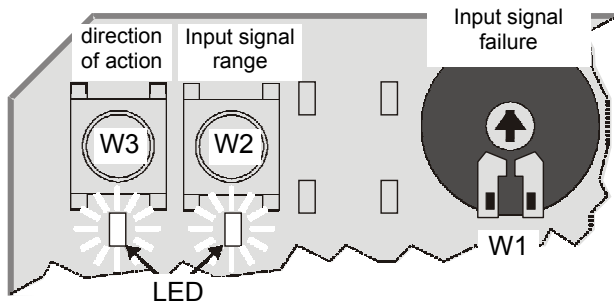

Fig. 1. Pushbuttons and potentiometer (default positions)
Factory setting; can be reversed by pressing the right-hand pushbutton (W3) located on the PCB (see Fig. 1).
The range of the analog input signal Y can be changed by pressing the right-hand pushbutton (W2) located on the printed circuit board (see Fig. 1). If the corresponding LED is lit, this indicates that the actuator is set for 0...10 V operation (factory setting); if it is dark, the actuator is set for 2...10 V operation.
Using the potentiometer (W1) located on the printed circuit board (see Fig. 1), the actuator can be adjusted such that in case of a signal input failure (e.g. a broken wire), the actuator will run to any pre-configured position between 0% and 100%. The factory setting is with the actuator stem in the central position (50%).
The direction of action can be reversed by pressing the left-hand pushbutton (W3) located on the printed circuit board (see Fig. 1). If the corresponding LED is lit, this indicates that the actuator stem will retract at a control signal of 0(2) Vdc (factory setting); if it is dark, the actuator stem will extend at a control signal of 0(2) Vdc.